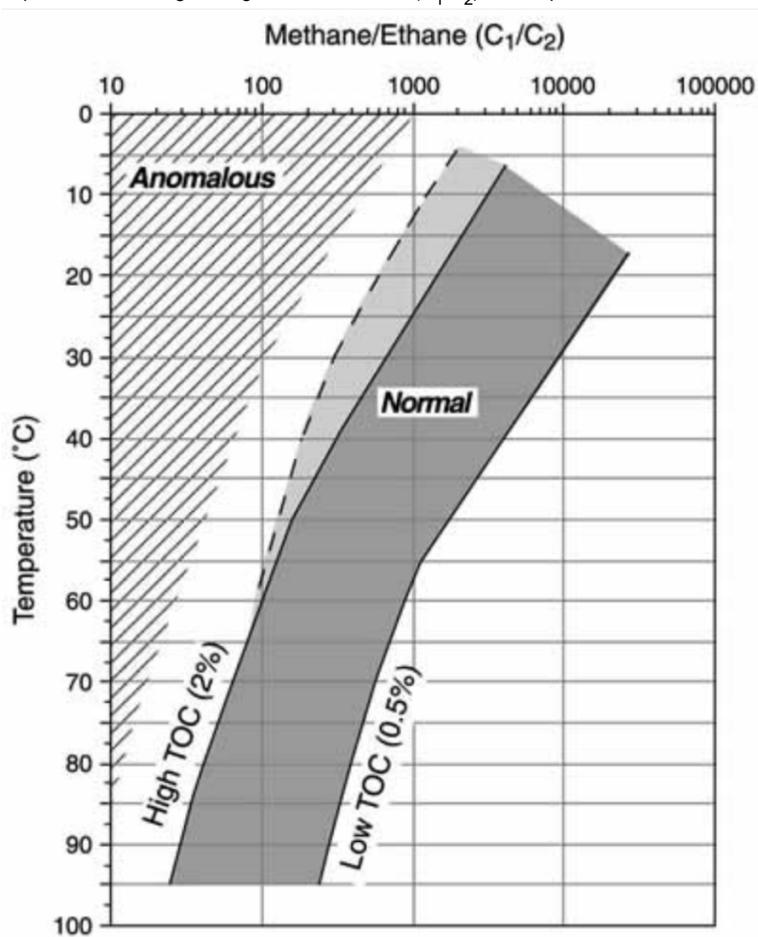

Figure 1. Risk Assessment for Drilling Safety (IODP).
The absolute quantity of hydrocarbons combined with the potential for trapping and accumulating hydrocarbons is the primary safety risk during shipboard operations. Gas monitoring via gas chromatography (GC) analysis is a means of quantifying the risk posed by these factors. *Figure 1* depicts the safe ranges for gas concentrations (C_1/C_2) vs. temperature.